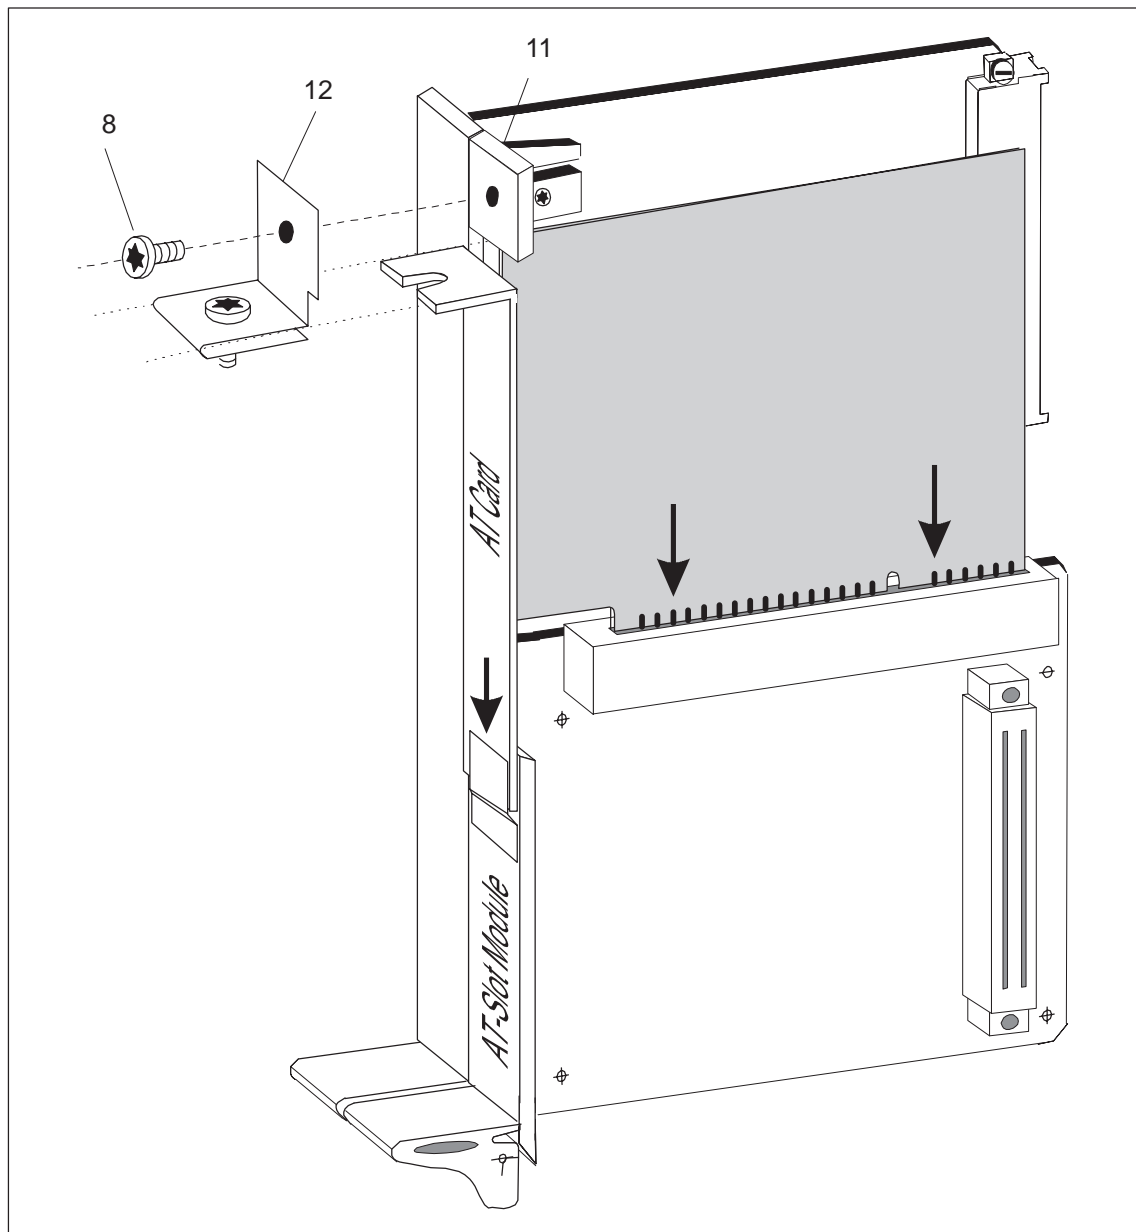

Figure 2-12 Assembly of an AT Board onto an AT Slot Module
Proceed as follows according to Figure 2-12 when fitting:
1. Insert the AT board from above into the female connector of the AT slot module as shown in Figure 2-12.
3. As shown in Figure 2-12, insert screw “8” through the support into part “11” which you fitted with the AT slot module, and tighten the screw.